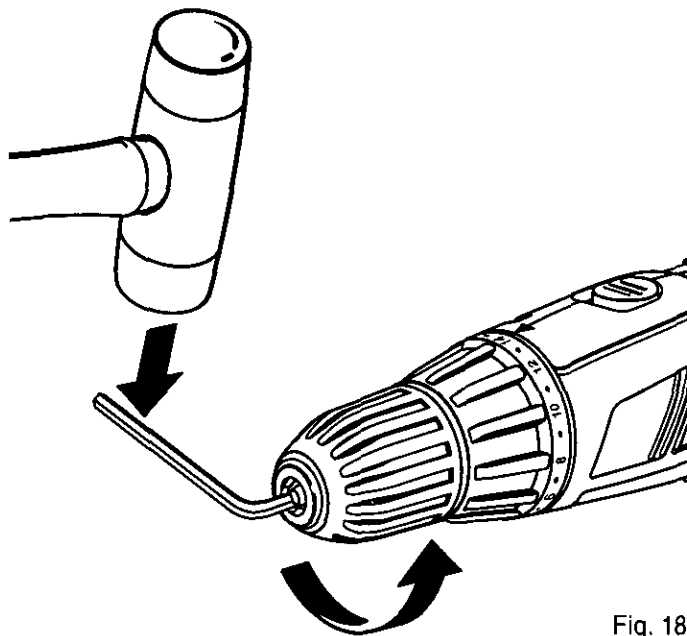

Fig. 18
- Insert hex key wrench in chuck and tighten chuck jaws securely. Tap sharply with a mallet in a counter-clockwise direction. This will loosen chuck on the spindle. It can now be unscrewed by hand. See Figure 18.